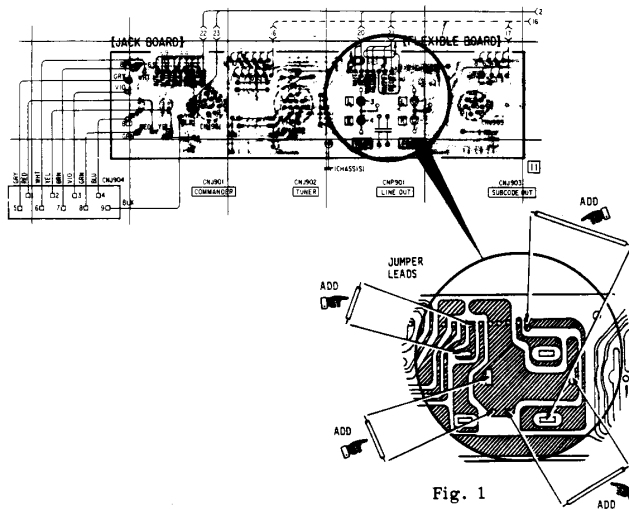

Fig. 1
2. Confirm the soldering condition of the pinjack on the pinjack board. Connect the pinjack terminals and the patterns by jumper leads to ensure proper connections. (Refer to Fig. 1)